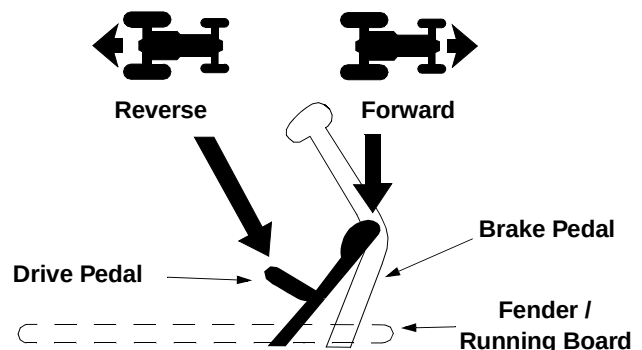

Figure 5
- **To travel forward:** Slowly depress the upper portion of the drive pedal forward until the desired speed is achieved. See Figure 5.
- **To travel in reverse:** Check that area behind is clear, then slowly depress the lower portion of the drive pedal with the ball of your foot (**not** your heel) until the desired speed is achieved. See Figure 5.